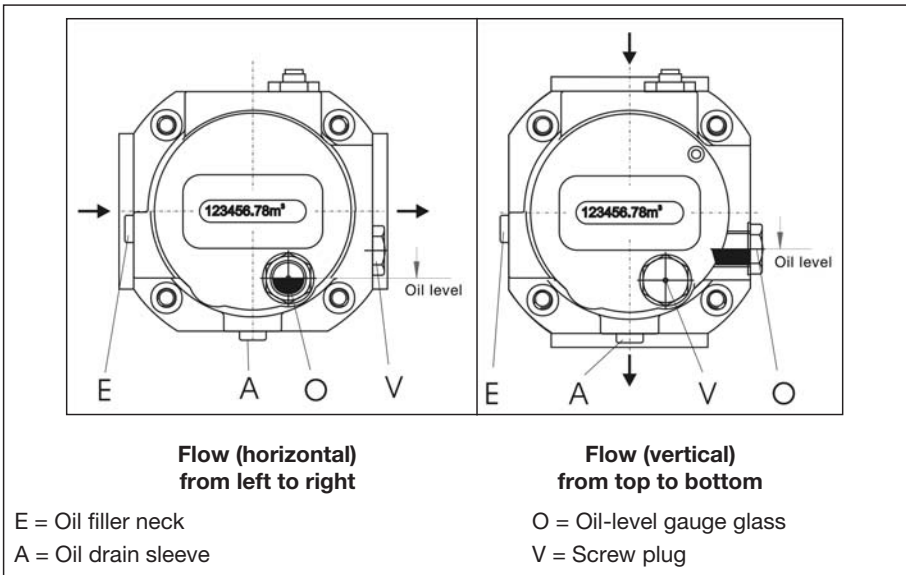

Figure 7: Horizontal and vertical installation positions, oil filling and oil-level display for **Type RVG-ST**
- In the case of **horizontal flow**, there are two openings available for filling with oil (E or V). The drain opening A is located at the lowest point. The oil-level gauge glass O is located on the front side of the meter, below the index (Figure 7, left).
- In the case of **vertical flow**, there is only one opening available (E) for filling with oil. The drain opening A is located at the lowest point. The oil-level gauge glass is now located on the right on the front housing cover (Figure 7, right).